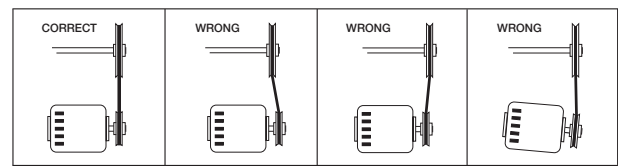

Figure 11
9. If adjustments are made, it is very important to check the pulleys for proper alignment. Misaligned pulleys lead to excessive belt wear, vibration, noise and power loss, see Figure 11.